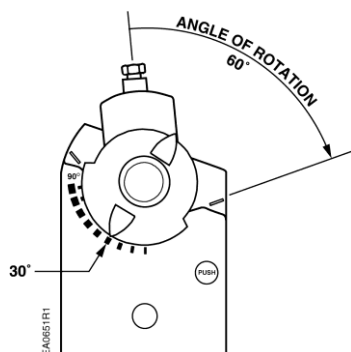

Figure 16.
5. Remove the shaft adapter and insert it with the position indicator pointing to mark on the scale calculated in the previous step. Figure 16.